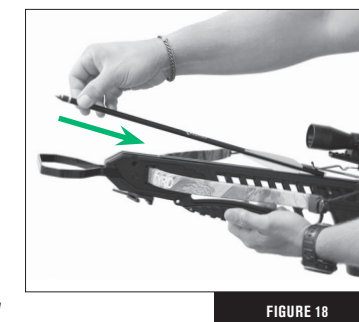

FIGURE 18
4. Grip the arrow near its point on the opposite end to the fletching. The crossbow may be loaded by keeping all hands and body parts out of the path of the bowstring and in the safe loading area (Fig. 18). Keep your hands, fingers and all other body parts out of the travel path of the string and cables at all times. The crossbow is designed so that the user never needs to place a body part into the path of the crossbow string. Failure to follow this warning could lead to serious injury or death.
5. Place the arrow/bolt so that the cocking vane (the odd colored vane), is down in the flight groove (Fig. 18)
6. Slide the arrow/bolt back to the trigger assembly, under the arrow/bolt retention spring, until the arrow/bolt nock rests fully on the string. (Fig. 18)